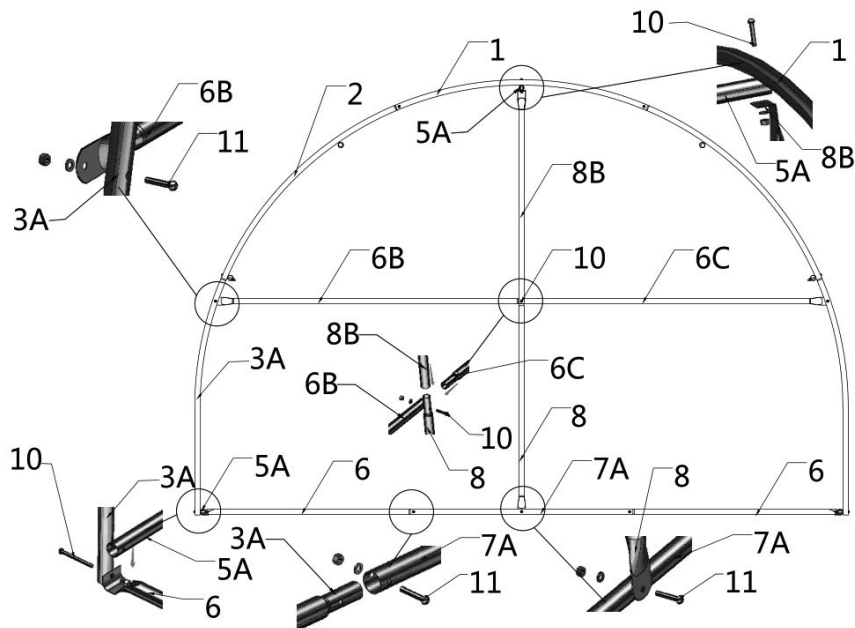

Figure 10
Step 8 : Install the remaining parts on the rear truss (Figure 10)
- (2) Bottom tension bar (#6)